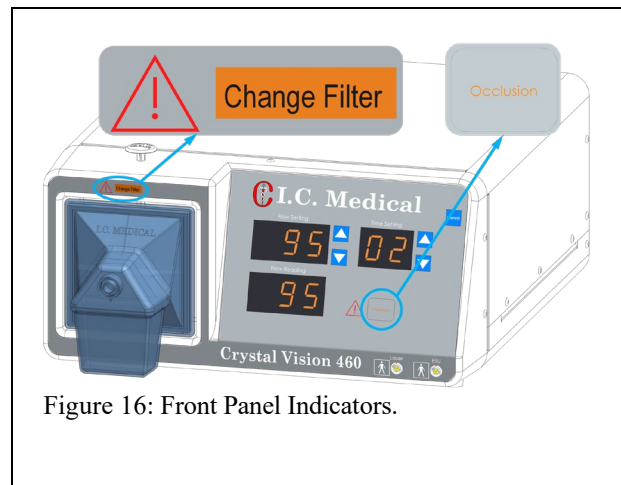

Figure 16: Front Panel Indicators.
8. CHANGE FILTER indicator is located above filter (Figure 16). It illuminates when there is a reduced flow into the CRYSTAL VISION®. The **SAFEGUARD BLUE®** Hydrophobic ULPA Filter with Built-in Fluid Trap should be changed when this light first illuminates. Do not attempt to clean or re-use the **SAFEGUARD BLUE®** Hydrophobic ULPA Filter with Built-in Fluid Trap . Dispose of the **SAFEGUARD BLUE®** Hydrophobic ULPA Filter with Built-in Fluid Trap according to your institution's biological waste protocol. This indicator will also come ON when there is a total occlusion. If the OCCLUSION indicator is also lit, be sure to clear the obstruction that caused it first and then check the CHANGE FILTER indicator. If it is still illuminated and the OCCLUSION indicator is not, then the **SAFEGUARD BLUE®** Hydrophobic ULPA Filter with Built-in Fluid Trap needs to be changed.
9. OCCLUSION indicates that flow into the CRYSTAL VISION® has stopped (Figure 16). The CHANGE FILTER light will also come ON at this time. The operator should check for kinked tubing, stopcocks that are turned OFF, clogged insufflator, use by date Large Coconut Charcoal Output Filter, or a completely clogged **SAFEGUARD BLUE®** Hydrophobic ULPA Filter with Built-in Fluid Trap. In order to prevent pump failure, the CRYSTAL VISION® pump will not activate when this lamp is illuminated.